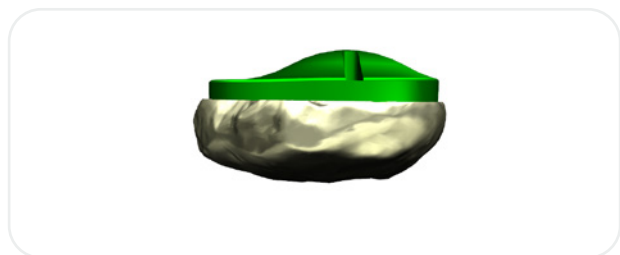

Figure 51
2. Place the CONCELOC round or oval patella trial onto the prepared patella. Make sure there are no spaces between the prepared bone and trial to ensure press-fit (**Figure 51**).